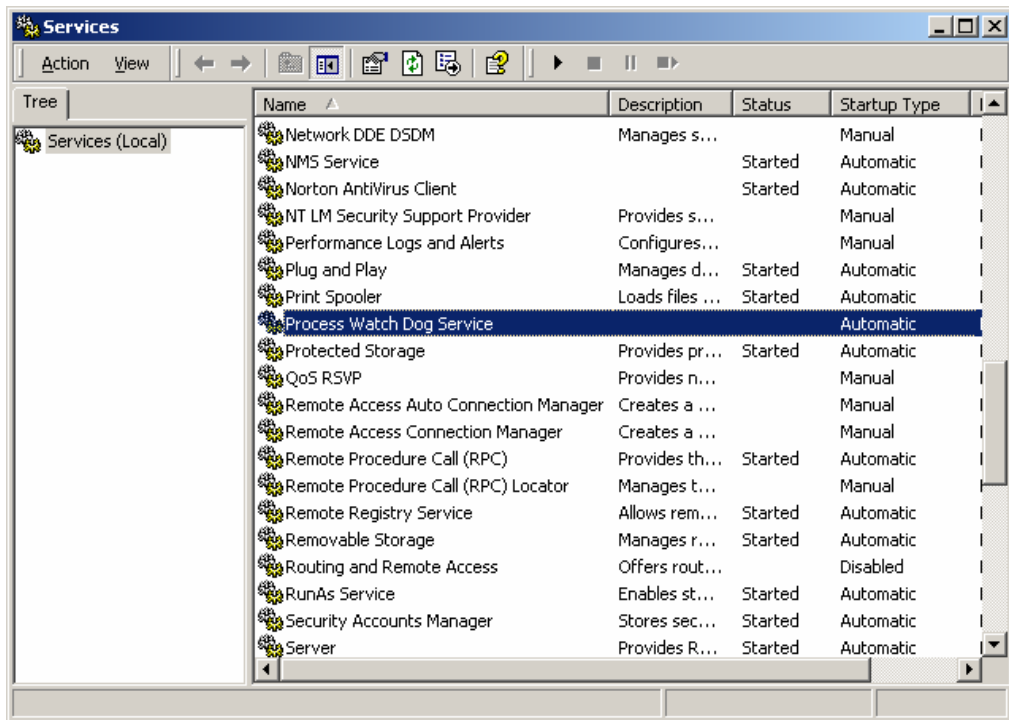

Figure 4-1 [Services] window
- 2) Select [Start/Programs/Administrative Tools/Services]. The [Services] window is displayed, as shown in Figure 4-1.